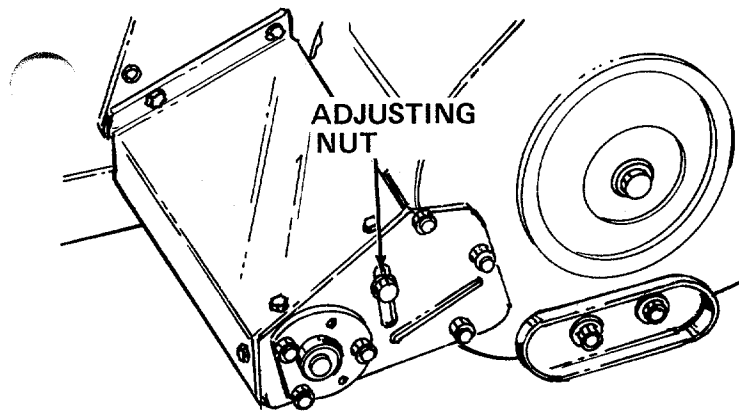

FIGURE 25
1. Disengage snow thrower and loosen the adjusting nut 2 or 3 complete turns. See figure 25.